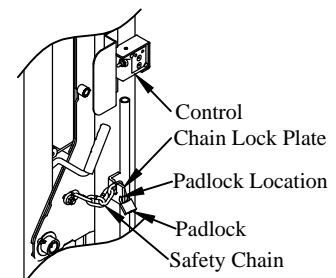

Figure 10: Steps 13 & 14.
- Step 13. Place the loose end of the Safety Chain in the slot on the Chain Lock Plate (Figure 10).
- Step 14. Always install the latch padlock and deactivate the control when not in use (Figure 10).